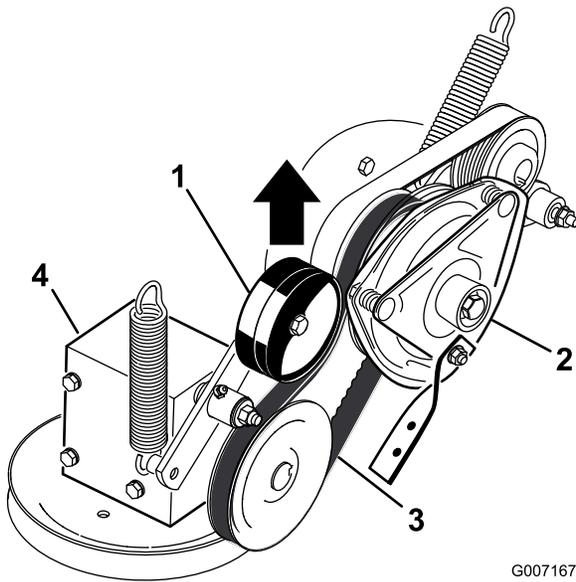

Figure 52
- Pull up on the spring loaded idler pulley for the PTO drive belt and remove the belt from the clutch pulley (Figure 52).
17. Pull up on the spring loaded idler for the PTO drive belt and install it onto the clutch pulley (Figure 52).